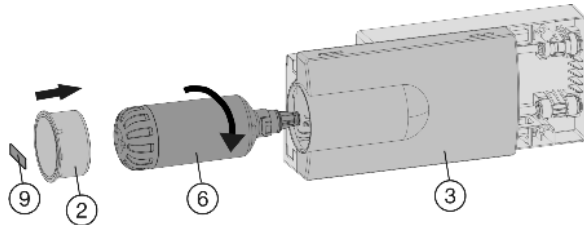

Fig. 58
- ▶ Place the tray cover *Fig. 58 (3)* in position.
- ▶ Insert the water filter Fig. 58 (6) and turn it approximately 100° to the right until it locks into position.
- ▶ Place the cover Fig. 58 (2) on the filter.
- ▶ Write the date of the next filter replacement on the supplied adhesive label Fig. 58 (9) and affix it to the module.